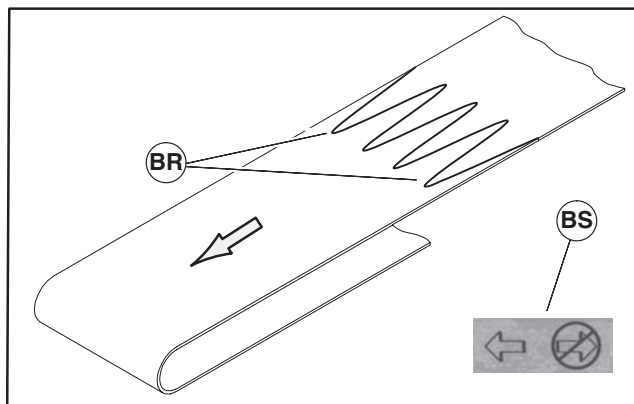

Figure 40
1. Orient belt so splice leading fingers (Figure 40, item BR) point in the direction of belt travel as identified by the conveyor directional label (BS).
2. Orient belt so splice leading fingers (Figure 40, item BR) point in the direction of belt travel as identified by the conveyor directional label (BS).